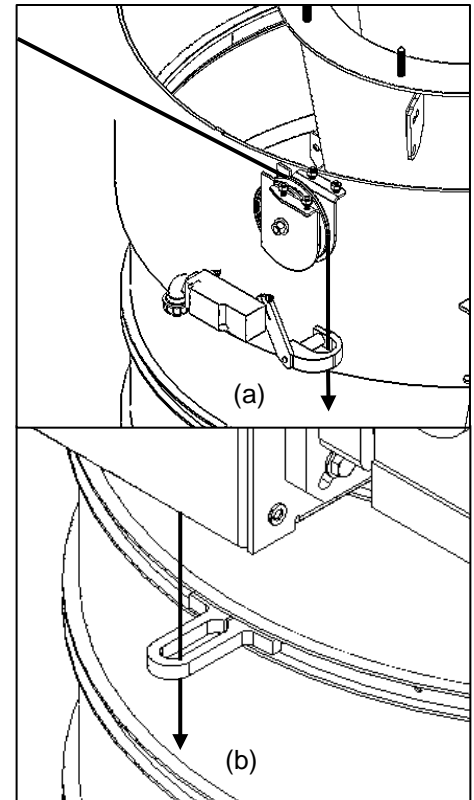

Figure 2: Cable Threading
12. Lower the lift cables a minimum of 6 inches past the attachment points on the outlet assembly, threading each cable as seen in **Figure 2**: (a) through the slack cable limit switch arm (if provided), and (b) through the cable guides on the flexible sleeve.